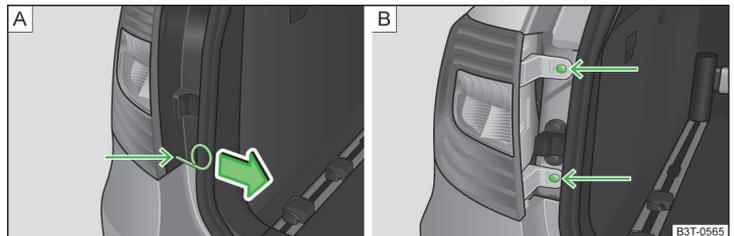

Fig. 209 Removing: Cover/light
- Insert the clamp for removing the wheel trims » page 205, *Vehicle tool kit* into the hole at the position indicated by the arrow » Fig. 209 - [A].
- Remove the cover in the direction of the arrow » Fig. 209 - [A].
- Use the screwdriver from the tool kit to unscrew the lamp » Fig. 209 - [B].